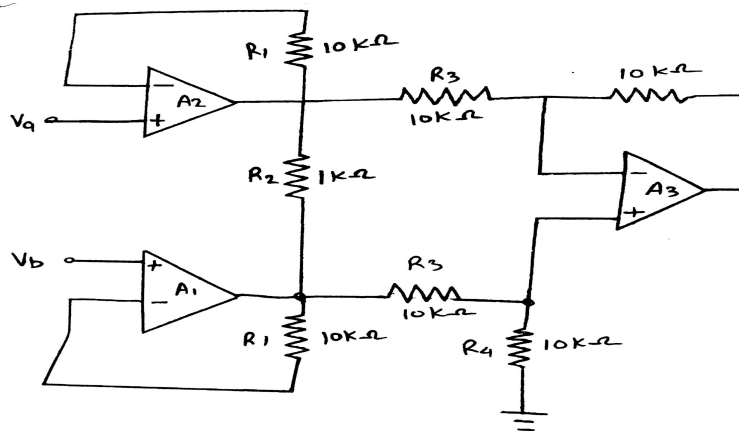

Fig no.1
d) Calculate the gain of the configuration shown in fig No.1 Also calculate the output voltage if $V_a = 2mV$ and $V_b = 1mV$.